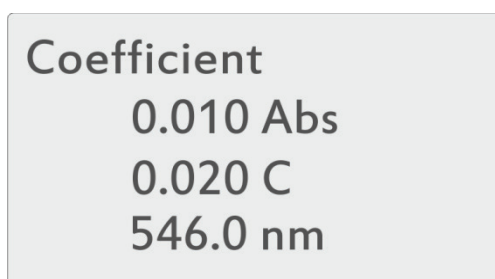

Figure 17 – Measurement with calculating the concentrations according to the coefficients
1. Place the marker to the menu item Coefficient K using the ▲ and ▼ buttons and press the **ENTER/START** button; the field for entering the values of the coefficient K (Figure 17) will appear on the display.